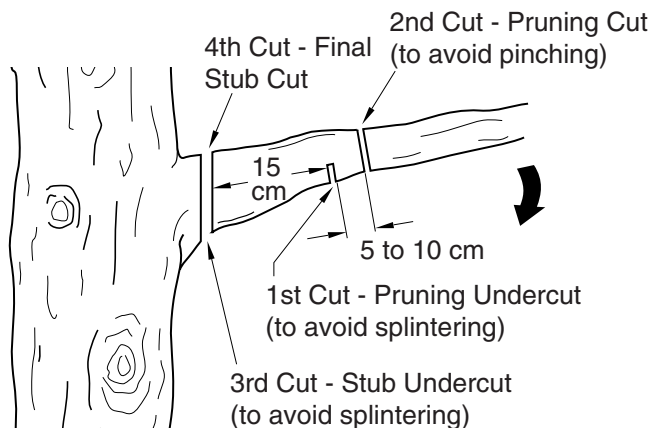

Figure 11 - Cutting A Limb
1. Make first cut 15 centimeters from tree trunk on underside of limb. Use top of guide bar to make this cut. Cut 1/3 through diameter of limb (see Figure 11).